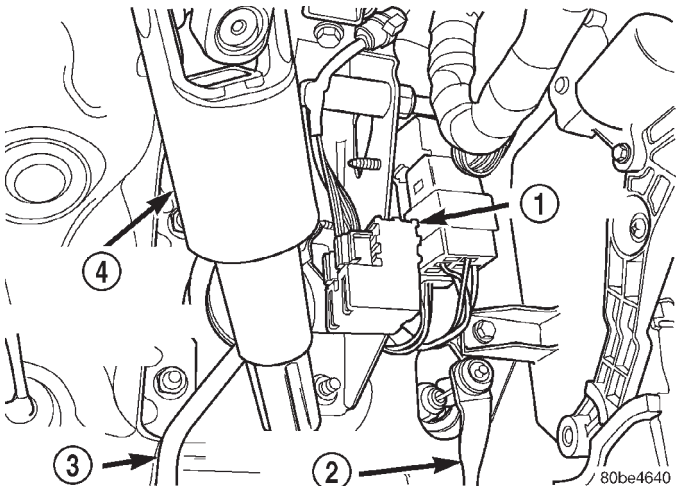

Fig. 176 Brake Lamp Switch
- When the switch is fully seated in its bracket, rotate the switch clockwise approximately 30° to lock the switch into place. It should be aligned straight up and down (Fig. 176).